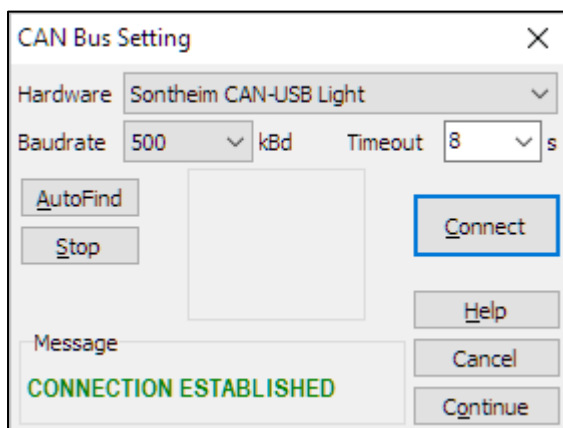

Figure 13. CAN Bus Setting dialog.
If this problem has been overcome and still the connection with Homer fails, a dialog window titled **CAN Bus Setting** shows up (Figure 13), displaying the error message **COMMUNICATION FAIL**. The cause may be that Homer is busy with lengthy measurement and responds with delay longer than the set timeout (repeated clicking the **Connect** button may help), or there is CAN baudrate discrepancy. The window enables to either set CAN baudrate on the PC side manually or detect it automatically. Be sure the CAN cable is properly connected and terminated by a 120-ohm resistor at both end devices (see Electrical Installation – CAN Bus).
- From **Hardware** drop-down list (Figure 13), select the CAN Bus interface your PC is equipped with (preferably Sontheim CAN USB Light Dongle).